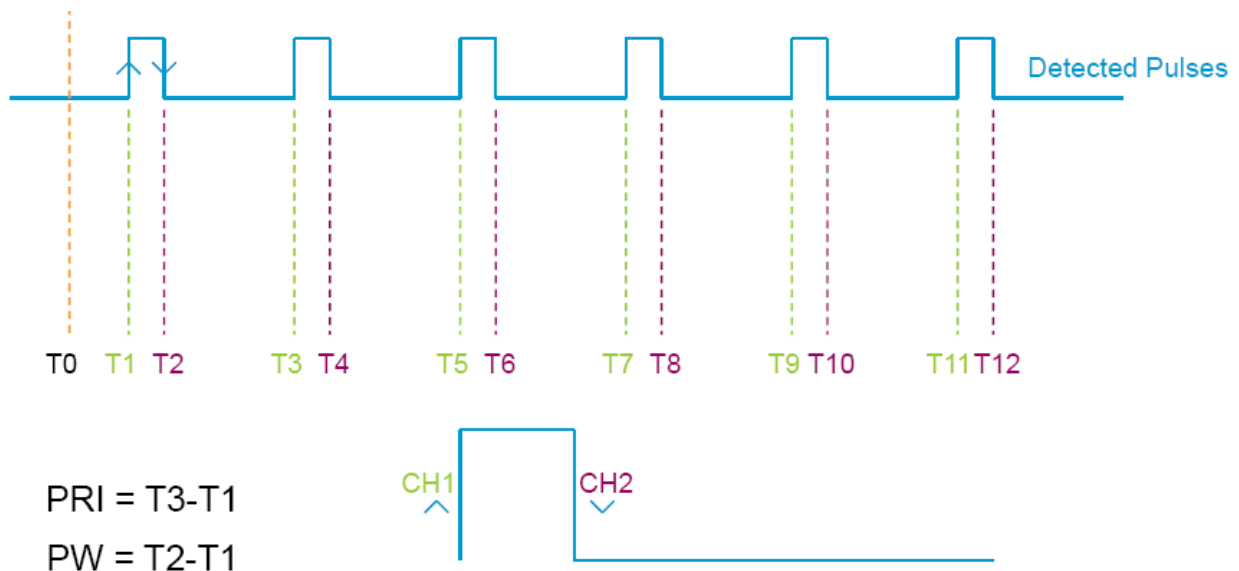

Figure 1.0-2 – PAS Measurement of Pulses
**PAS Measurements** – Figure 1.0-2 below shows how the TDC module makes measurements on the pulsed input signals. TDC channel 1 is assigned to the leading edge of a pulsed waveform and channel 2 is assigned to the trailing edge of the pulse. Pulse polarity can be set to either positive or negative via the PAS control software. Pulse width measurements are made by subtracting channel 2 from channel 1 (shown below as T2-T1). Pulse Repetition Interval (PRI) or period measurements are made by comparing subsequent channel 1 measurements (shown below as T3-T1).